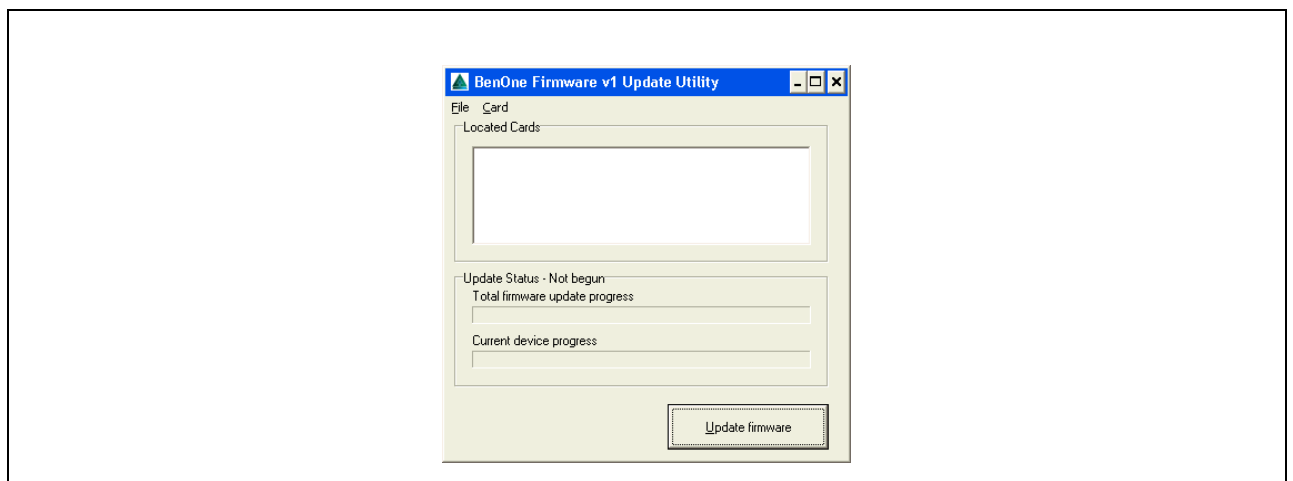

Figure 151: Firmware Update Utility
2. After the PC starts up, click on the Windows start menu and launch '**Programs->XtremeDSP Development Kit Pro->Software->Update to PCI Firmware Only**'. Alternatively open Windows Explorer and navigate to the firmware folder in the XtremeDSP Development Kit Pro installation and run the Benone_32PCI_64PCI.exe program (see Figure 151 on page 226).
3. Double click on file Benone_32PCI_32PCI.exe to launch the application (see **Figure 151 on page 226**).